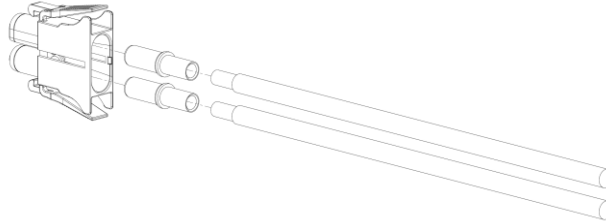
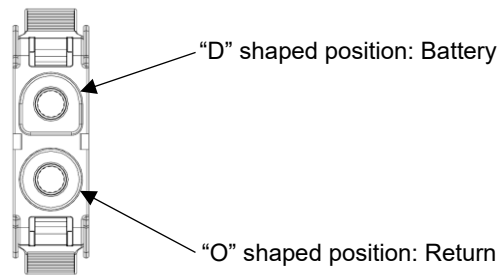

Fig. 2-19: Insert Crimped Terminals
Fig. 2-20: Connector Front View
56. Insert terminals into plug housing as shown in Fig. 2-19 and Fig. 2-20. The battery terminal goes in the “D” shaped position on the connector. The return terminal goes in the round housing position.